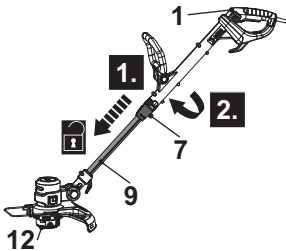

Fig. 8 (initial position 0°) Fig. 9 A (initial position 90°)
- Slide the unlock button (7) downward and turn the main handle (1) clockwise while holding lower pole (9) to adjust the trimmer head (12) to an angle of 90° or 180° (Fig. 8). Release the unlock button (7) and keep turning the main handle (1) until it locks in place. Ensure the unlock button (7) snaps into place.